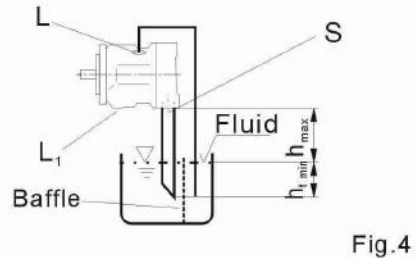

Fig. 4
- b) If the minimum fluid level is equal to or below the top of the pump, pipe ports "L" and possibly "S" as Fig. 4.; close port "L₁".
- The conditions according to item 1.2.1.
- a) When mounting above the reservoir, see Fig. 4. Conditions according to 1.2.1.